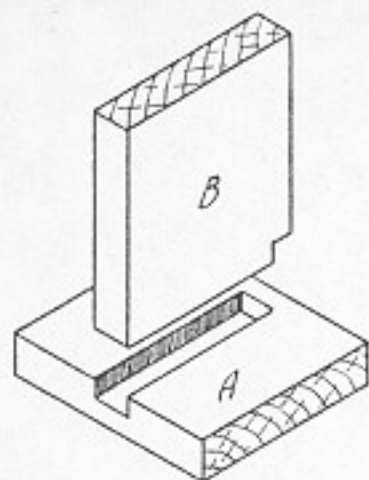

Fig. 186. Finished gain joint.
6. The notch marked in the front edge of piece B is sawed out on the waste side of the line. Then the pieces are fit together (Fig. 186).